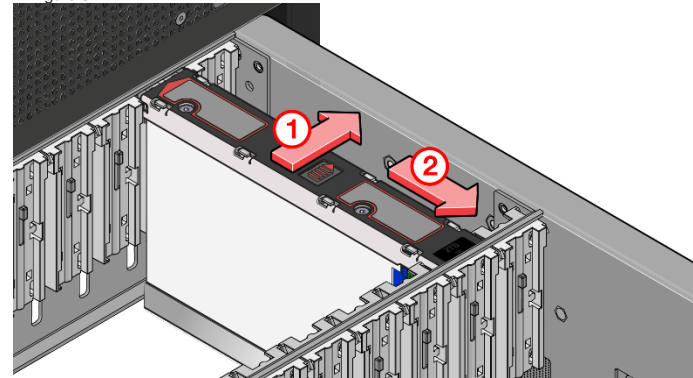

Figure 6-1: Sliding the DDIC release button and latch
1. Slide the release button and the DDIC will pop up slightly from the slot. Slide the release button, as shown in Figure 6-1.
2. Slide the top surface in the direction of the arrow until the latch releases, as shown in Figure 6-1.